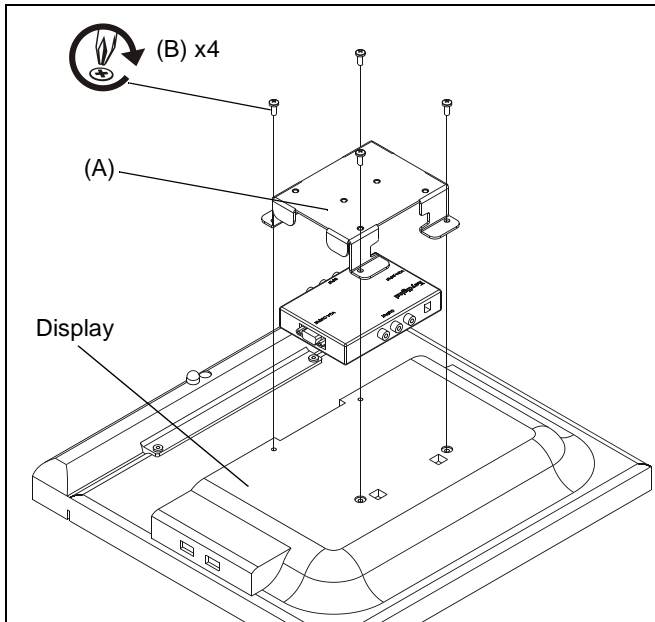

Figure 1
1. Install switcher box to display by securing with switcher bracket (A) and four M4 x 10mm screws (B). (See Figure 1)